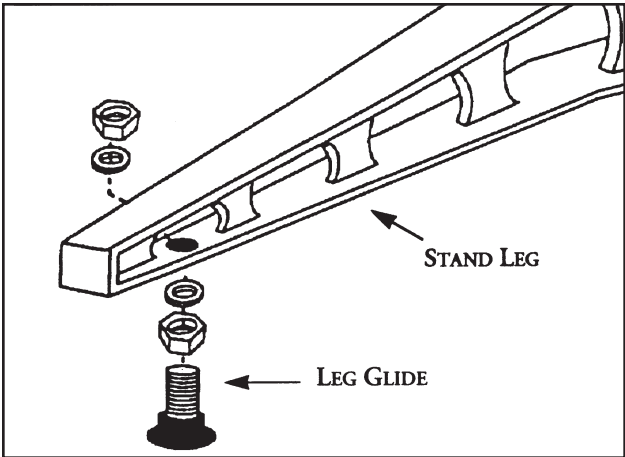

Fig. 2 Leveling foot and mounting hardware.
1. Unbolt the machine legs from the shipping pallet. Install the rubber-based leveling feet or optional caster set on legs (Fig. 2). The feet and mounting hardware are in the STOP bag packed with your machine.